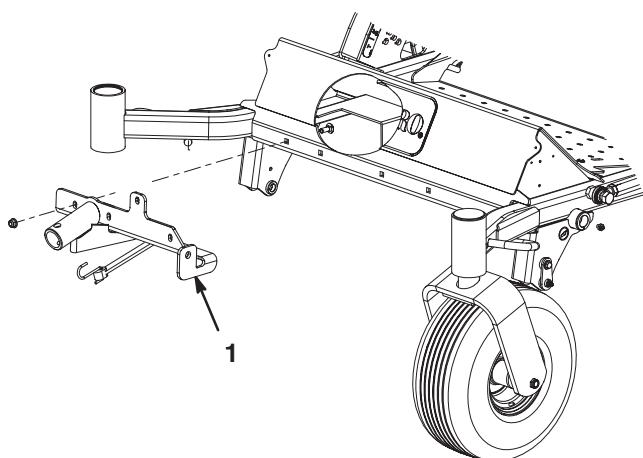

Figure 1
1. Align the holes in the jack mount with the holes in the front of the carrier frame (Fig. 1)
2. Secure the jack mount to the front and underside of the carrier frame with (5) carriage screws and nuts (Fig. 1).